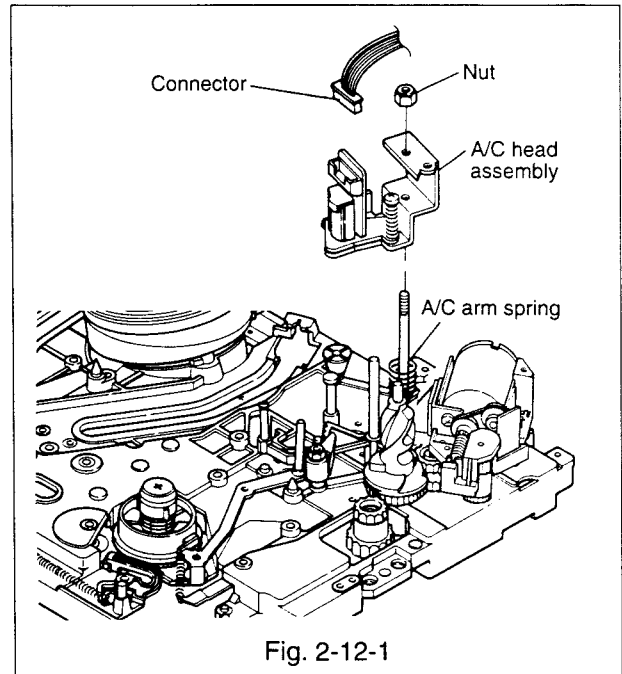

Fig. 2-12-1
2-12-1 Removal (Refer to Fig. 2-12-1, 2-12-2.)
- Disconnect the connector from the PCB A/C HEAD.(Refer to Fig. 2-12-1.)
2-12-2 Installation(Refer to Fig. 2-12-1~2-12-3.)
(Refer to Fig. 2-12-1.)